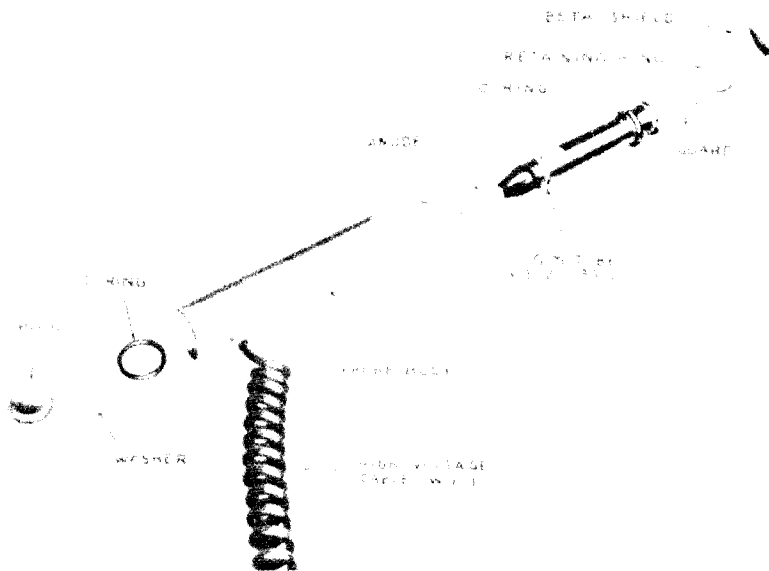

Figure 7-6.
a. REMOVAL OF V-102. (See fig. 7-6)
b. REPLACEMENT OF V-102 (See fig. 7-6)